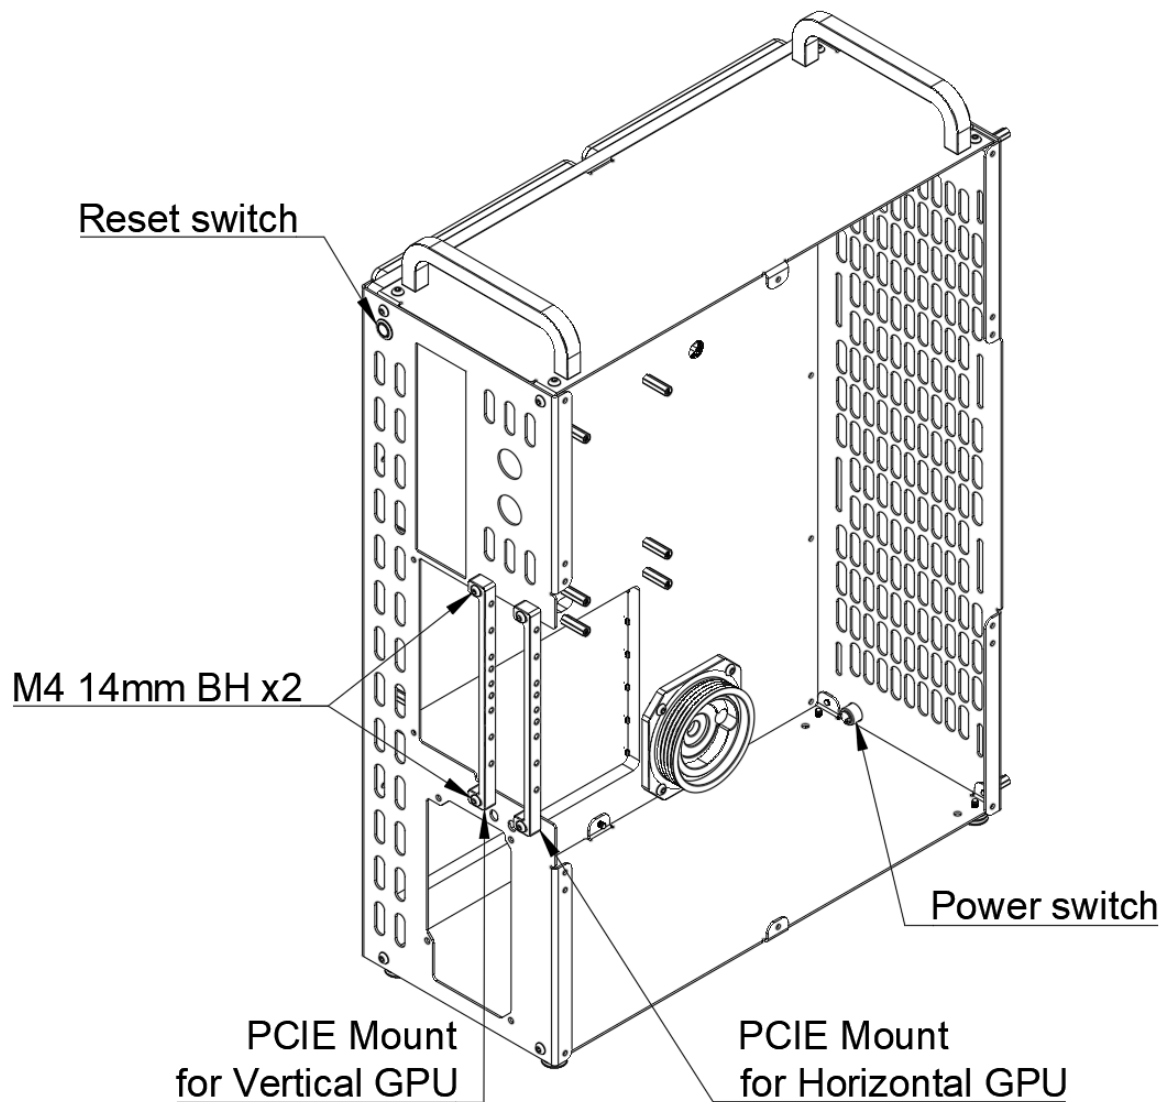

Figure 5
- **Step 5B:** Install the Power switch to the front panel and the Reset switch to the rear panel according to Figure 5.